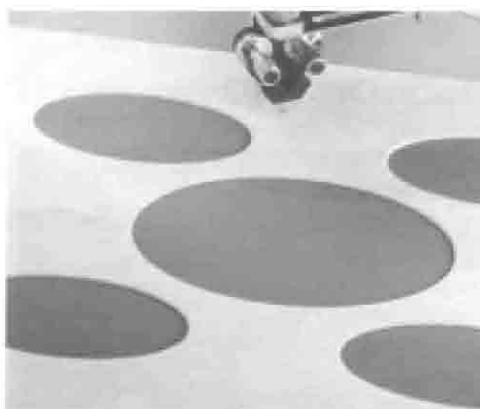

Figure 18
4. Repeat steps 1, 2 and 3 above for subsequent openings in the mat. See Figure 18.